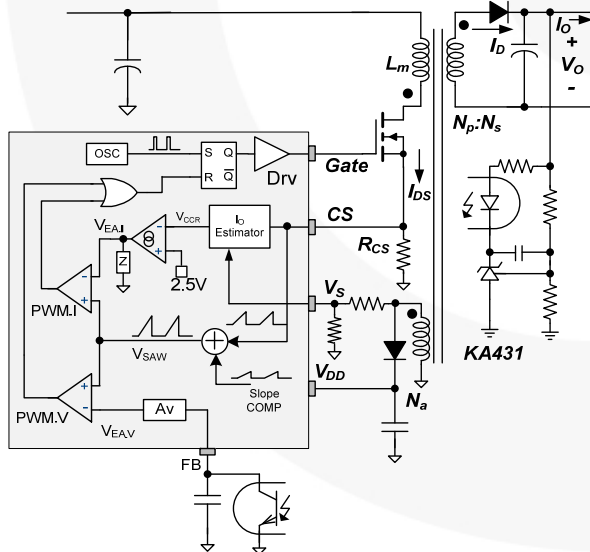

Figure 24. Internal PWM Control Circuit
Figure 24 shows the internal PWM control circuit. The constant voltage (CV) regulation is implemented in the same way as the conventional isolated power supply, where the output voltage is sensed using a voltage divider and compared with the internal 2.5 V reference of a shunt regulator (KA431) to generate a compensation signal. The compensation signal is transferred to the primary side using an opto-coupler and scaled down through attenuator A_v , generating the $V_{EA,V}$ signal. Then the error signal $V_{EA,V}$ is applied to the PWM comparator (PWM.V) to determine the duty cycle.